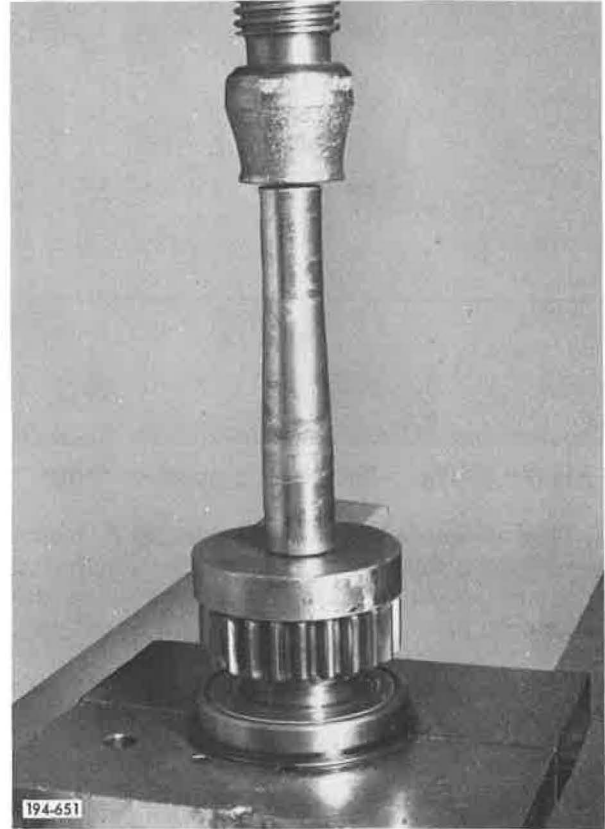

Figure 5-470. Installing Bearing
1. Press main drive pinion bearing onto main drive pinion shaft. Be sure outer race snap ring is positioned toward pilot end of pinion (away from pinion gear teeth). See **Figure 5-470**.